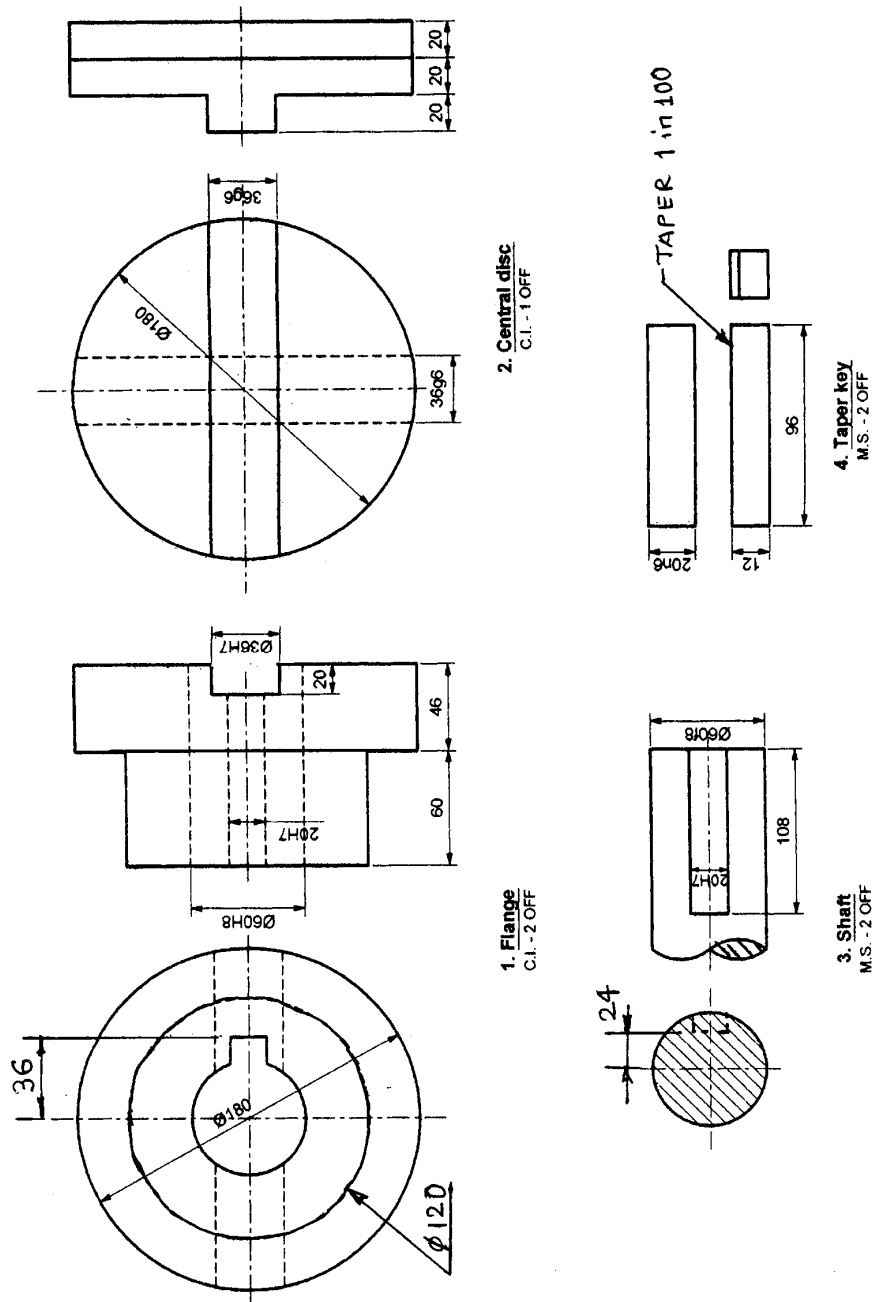

Fig. No. 6
- (b) Fig. No. 6 shows the details of Oldham's coupling. Draw the following views of the assembly :